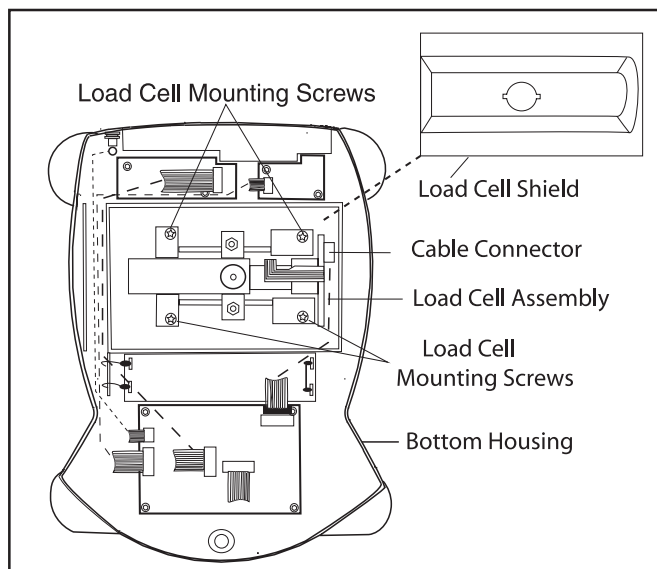

Figure 3-6. Removing Load Cell.
Load Cell Kits are available for replacement purposes for all AV and AS model balances. Each Kit is fully assembled and consists of metal base plate, a Load Cell mounted to the base plate and a package of labels. All adjustments such as up stop and down stop (limits travel of the Load Cell to safe limits) have been factory set. Check the Label of the balance and verify the capacity and model before ordering a new load cell kit. Figure 3-6 illustrates an AV Model with RS board.
3. Remove the 4 screws and washers that secure Load Cell to the Bottom Housing. The screws are located at the corners of the Load Cell base. See figure 3-6. Remove the Load Cell.